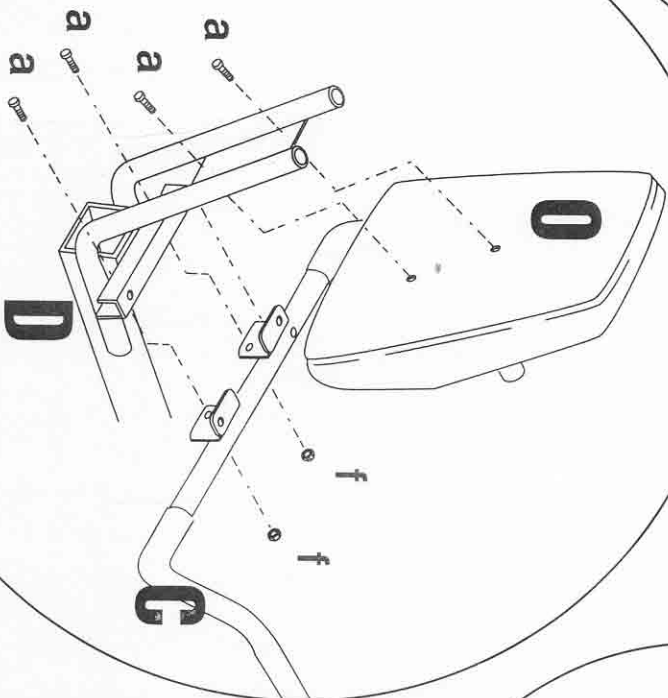

Figure 1
- B. Rollers (2)
- C. Handlebar (refer to Figure 1)
- J. Pedals (2)
- O. Seat Back (refer to Figure 1)
(Refer to Figure 1 for this step.)
(Refer to Figure 1 for